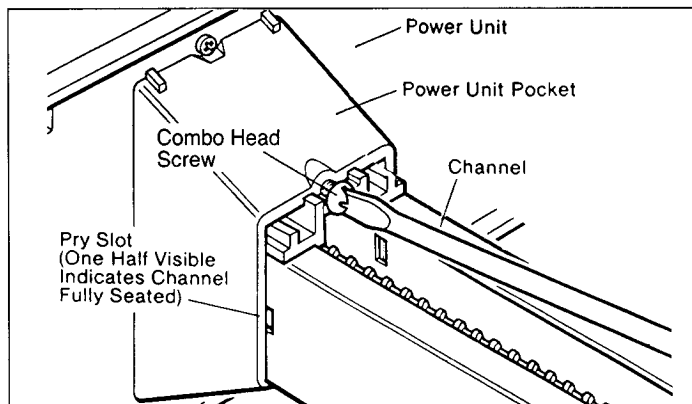

Figure 7
Step 9: Carefully work channel into pocket (see Figure 7).
Step 10: Install the 1/4" - 20 x 1-1/2" combo head screw. See Figure 7.